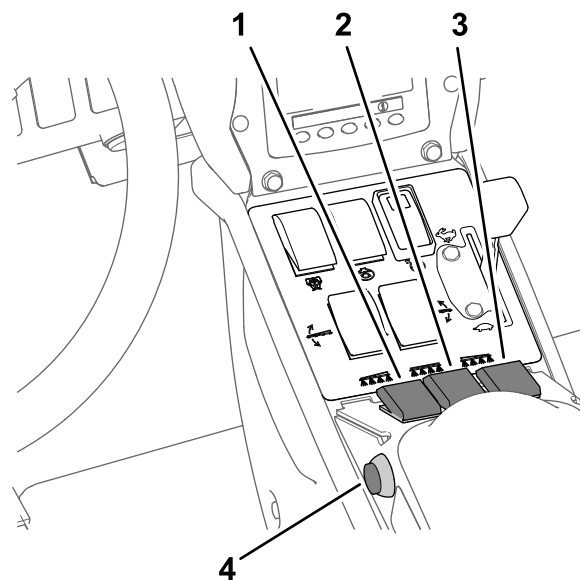

Figure 40
7. Set the spray section switch(es) to the ON position (Figure 40).
10. Drive at the desired speed and then set the master section switch to the ON position to begin spraying (Figure 40).
3. Set the master section switch to the OFF position; refer to Figure 40 in Spraying in the Application Rate Mode (page 35).
7. Set the individual section switches, as needed, to the ON position; refer to Figure 40 in Spraying in the Application Rate Mode (page 35).
9. Drive at the desired speed and then set the master section switch to the ON position to begin spraying; refer to Figure 40 in Spraying in the Application Rate Mode (page 35).